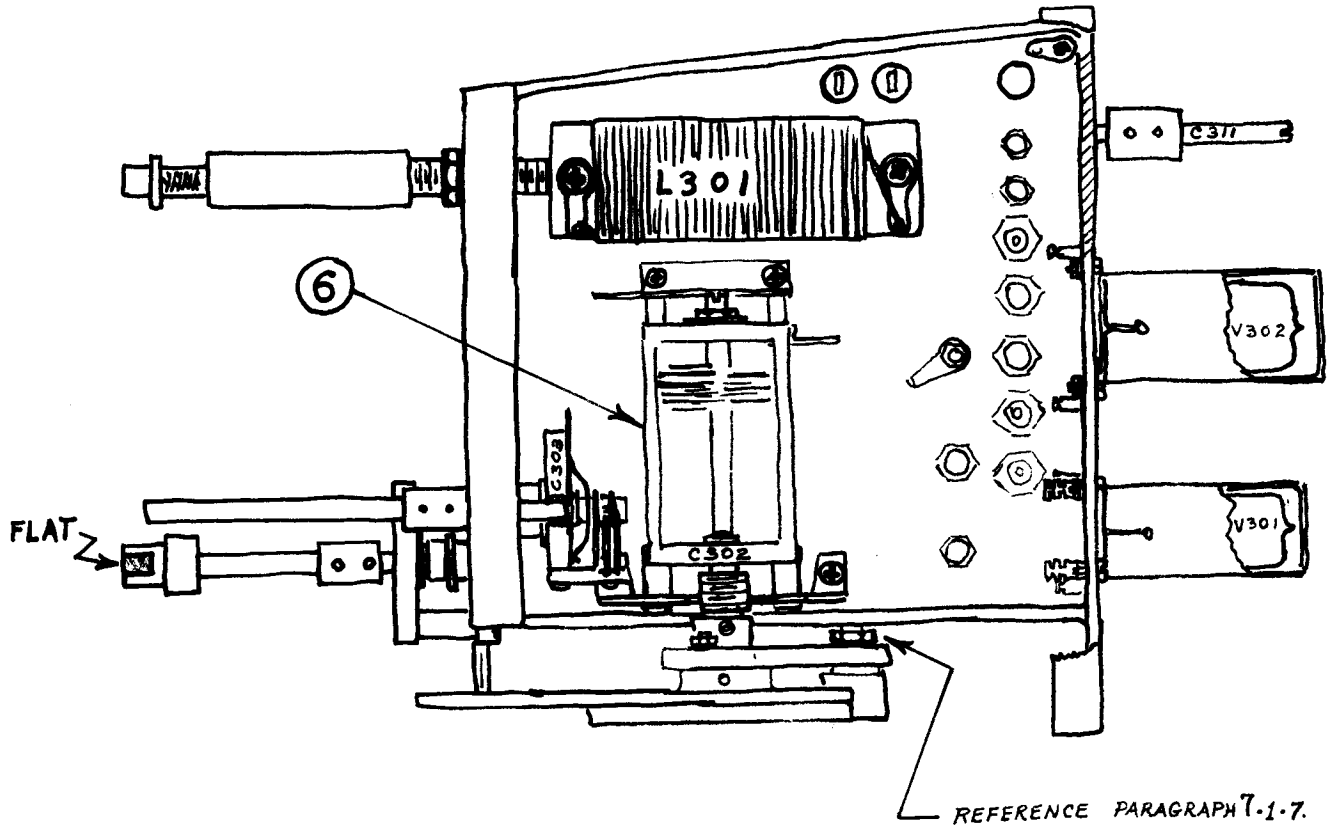

FIGURE 4
- 7.1.7 Loosen the set screws and adjust the cam follower arm assembly part # A-583 (reference figure 3, item 2) on the shaft of C302, part # CB-105 (reference figure 4, item 6) such that the nut holding the roller of the cam follower arm assembly does not touch the base of the oscillator (reference figure 4) but passes as close as possible to the base of the oscillator.